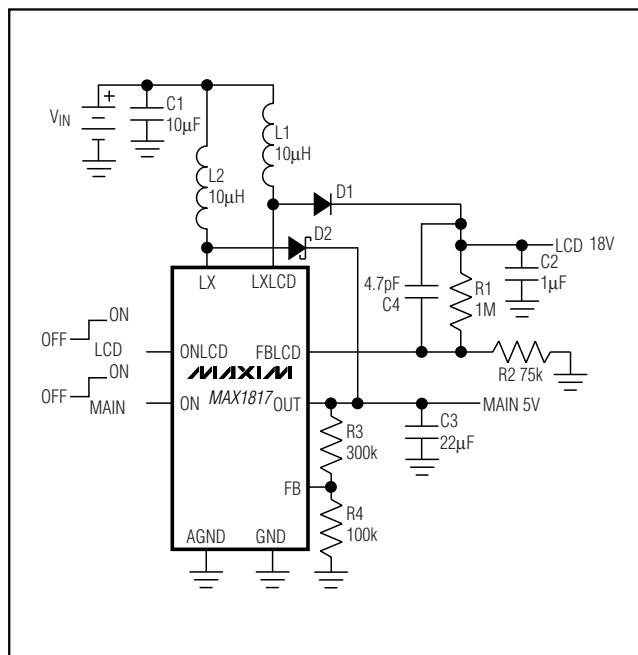

Figure 2. Setting Main Output Voltage Using External Resistors
The main step-up converter feedback input (FB) features Dual Mode operation. With FB grounded, the main output voltage is preset to 3.3V. It can also be adjusted from 2.5V to 5.5V with external resistors R3 and R4 as shown in Figure 2. To set the output voltage externally, select resistor R4 from 10kΩ to 100kΩ. Calculate R3 using: